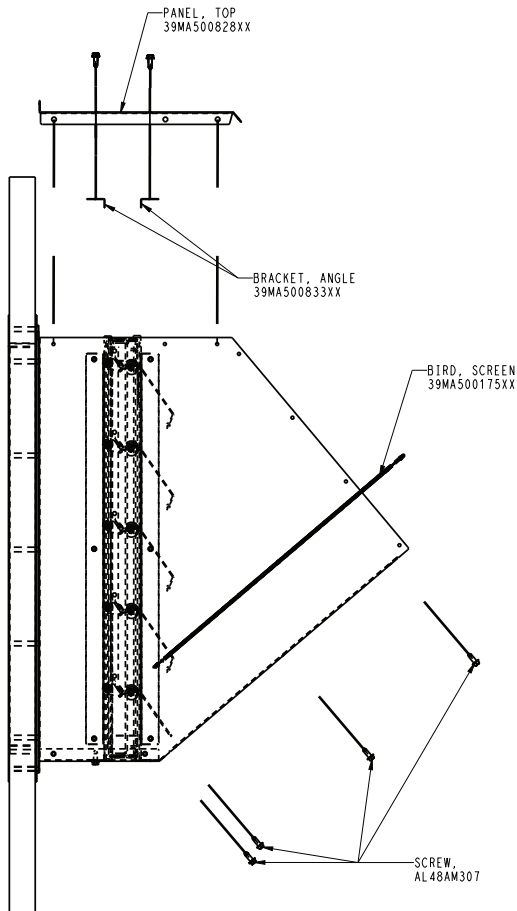

Fig. 84 — Attaching Bird Screen and Top Panel
13. Attach bird screen to the inside of the hood using the 1/4 in.-14 x 5/8 in. long sheet metal screws (without neoprene washer.) Also, attach brackets to top panel, then attach top panel to power exhaust assembly. See Fig. 84.